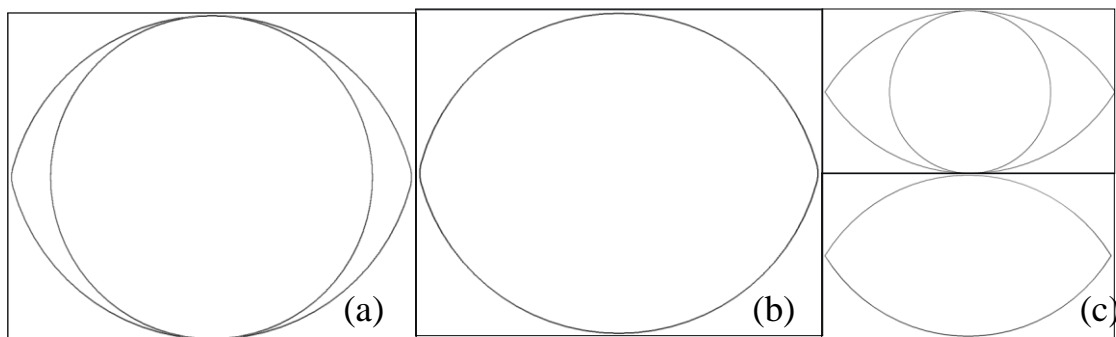

Figure 5: Lids and tabs (a) large tab (b) large lid (c) small tab (top) small lid (bottom)
- Designs can be developed using AutoCAD[®] or SolidWorks[®] (Figure 5)